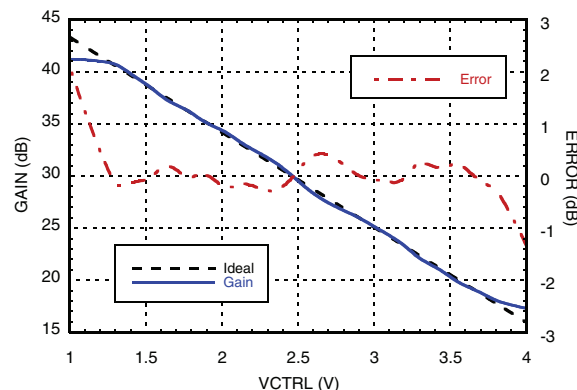
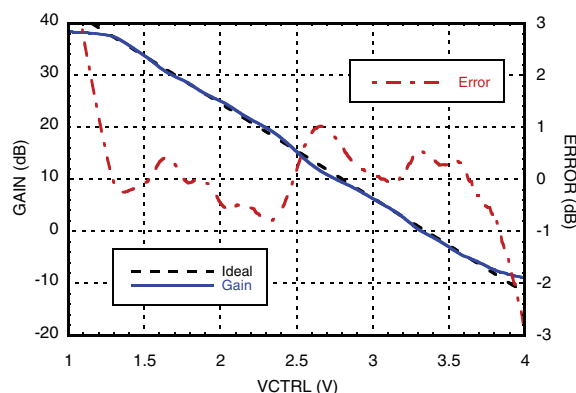

Figure 3a: Gain & Gain Conformance Error vs. VCTRL at 300 MHz, 1 attenuator + 2 amplifiers configuration.
Figure 3b: Gain & Gain Conformance Error vs. VCTRL at 300 MHz, 2 attenuators + 2 amplifiers configuration.
The gain control performance of the HMC992LP5E at 300 MHz is shown in Figures 3a and 3b. The HMC992LP5E provides 24 dB of gain control range with a maximum gain of 41.2 dB when it is configured in 1 attenuator + 2 amplifiers mode, and similarly a 48 dB of gain control range with a maximum gain of 39 dB of gain when it is configured in 2 attenuators + 2 amplifiers mode. The HMC992LP5E's VGA has a very flat linear-in-dB gain control characteristic with a slope of -18.2 dB/V for the 2 attenuator configuration and -9.1 dB/V for the 1 attenuator configuration. The log-linearity error of the HMC992LP5 VGA is typically less than ± 1 dB over the entire gain control range as shown in Figure 3a and Figure 3b. The relation between the gain of HMC992LP5E's VGA and VCTRL pin voltage can be approximated as given in Equation (1).